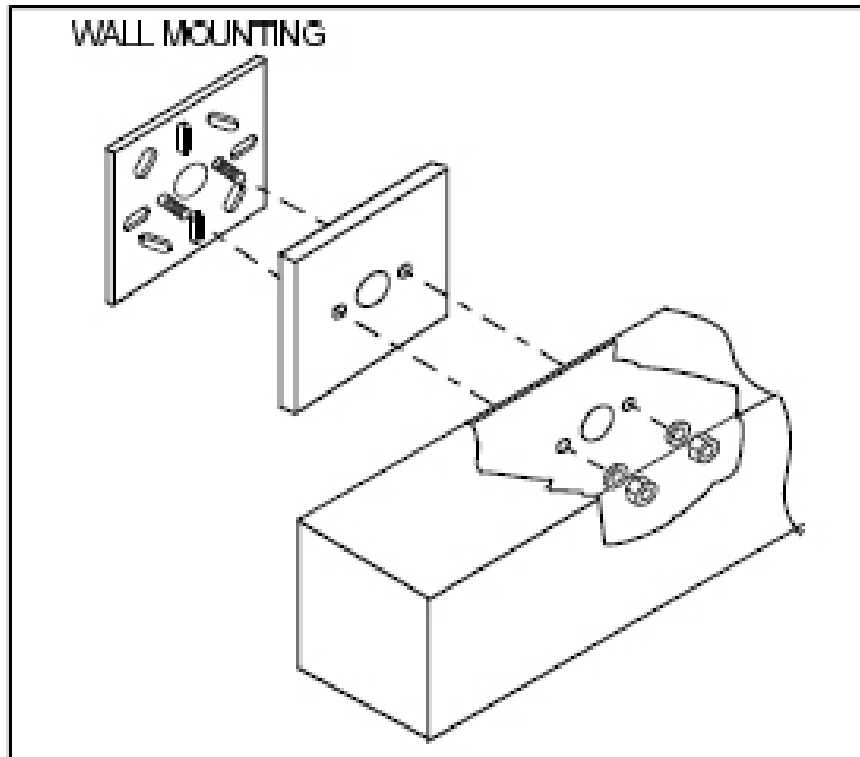

Figure 2
7. Place the cover plate over the universal mounting plate as shown in Figure 2. (The cover plate does not need to be used in ceiling mount applications).